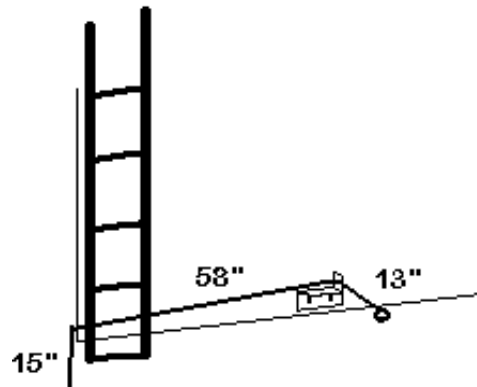

Figure E5
8. Form the cut lever from 0.014" rod using the following dimensions shown. Please be aware that there may be some variance in dimensions. We have found when using Sergent couplers that the cut lever does get in the way of the magnet so we make the tongue 2" shorter. See Figure E5.